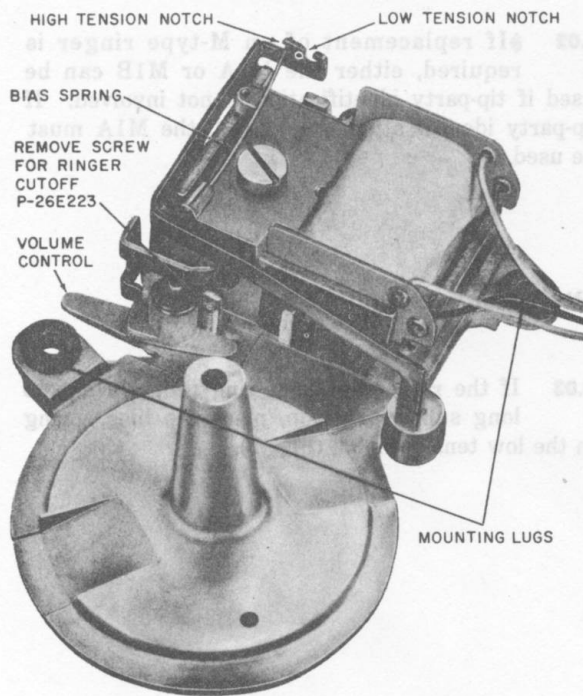

Fig. 5—M1A and M1B Ringer, Gong and Resonator Removed
2.03 These ringers are provided with a mechanical volume control. There are three positions of volume: HIGH, LOW, and OFF. The OFF position is blocked by a factory placed machine screw. Remove the screw for ringer cut off feature. (See Fig. 5, 6, and 7).
2.06 The bias spring for the M- and N-type ringers is factory set in the HIGH tension notch (Fig. 5). It can be positioned to either the HIGH or LOW tension notch.
3.03 If the ringer does not ring properly due to long subscriber loop, place the bias spring in the low tension notch (Fig. 5).